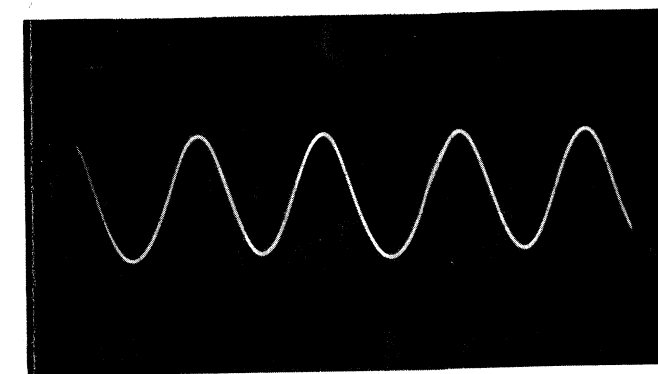

Figure 15 Symmetrical sinewave
- The center frequency is indicated by a symmetrical sinewave on the oscilloscope (figure 15).